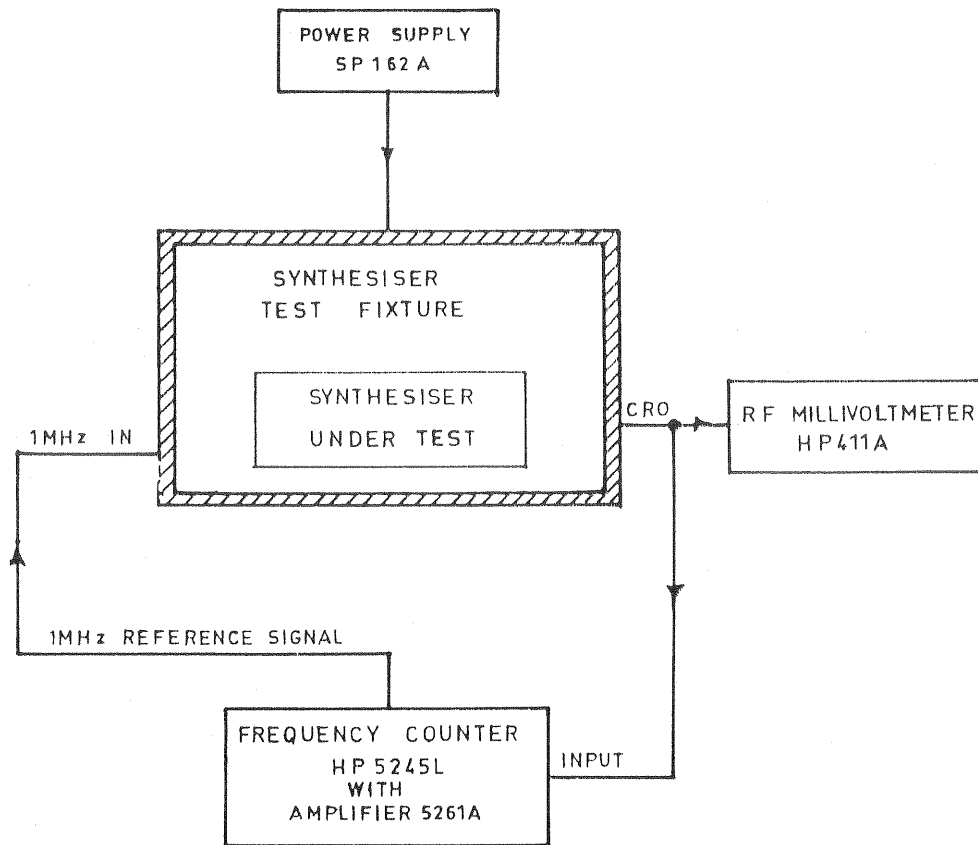

FIG 1 — SYNTHESIZER TEST SET UP
**14. Setting up of the Equipment. (See Fig 1)**